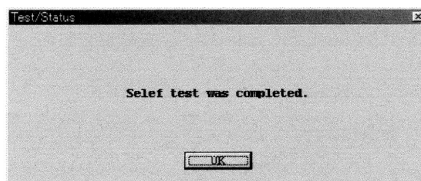

Fig.74
- ④ When the process of self test takes place, a message box as shown in Fig. 74 appears. Clicking on "OK" button ends the process of self test.